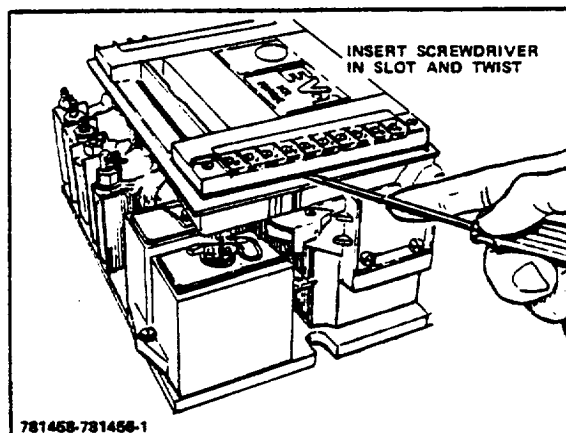

Figure 4-3. Terminal Board Removal
3. Remove the terminal board mounting screws from each side of the control card. Insert a screwdriver in the slot on the side of the terminal board and twist the screwdriver to pry out the terminal board. Leave the wires intact. Remove both terminal boards (Fig 4-3).